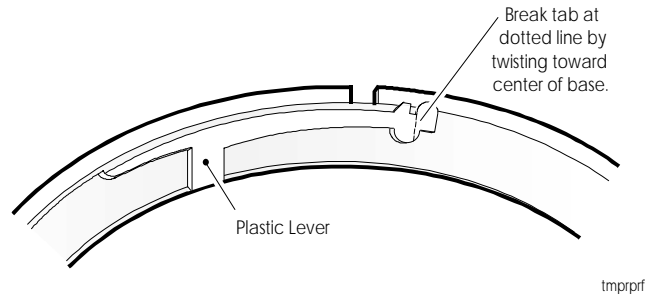

Figure 4: Enabling the Tamper-Proof Feature
1. Break off the smaller tab at the scribed line on the tamper-proof tab on the detector mounting bracket (Figure 4).